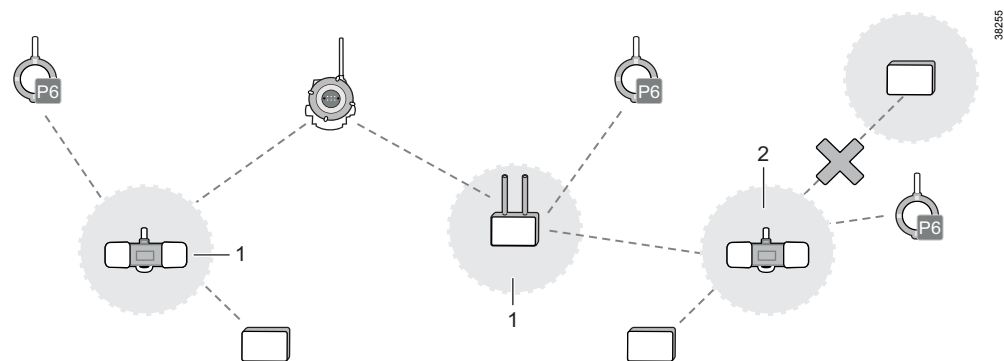

Fig. 3 Hop points in a sub-network
Series-connected hop points can delay the response time. If response times are a critical factor, there must be a limited number of hops (wireless interfaces) from the field device to the access point. Fig. 3 shows a sub-network with only one (1) or two (2) hops allowed.